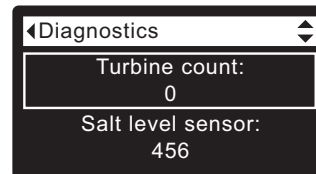

FIG. 106
2. Press the DOWN (▼) button to scroll through the list until **Turbine Count** is displayed (See Figure 106).